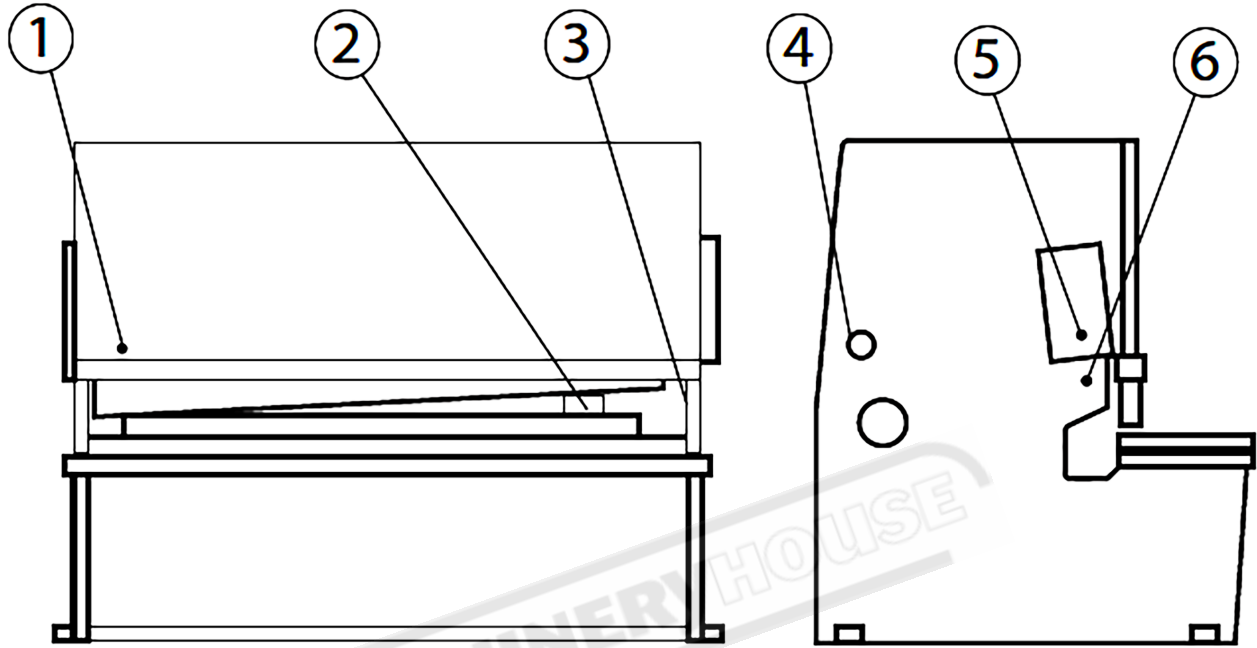

Fig. 6.1
- Oil must be changed after the first 200 working hours of use, and then after every 1000 working hours. (See: Lubrication Diagram Fig. 6.1).